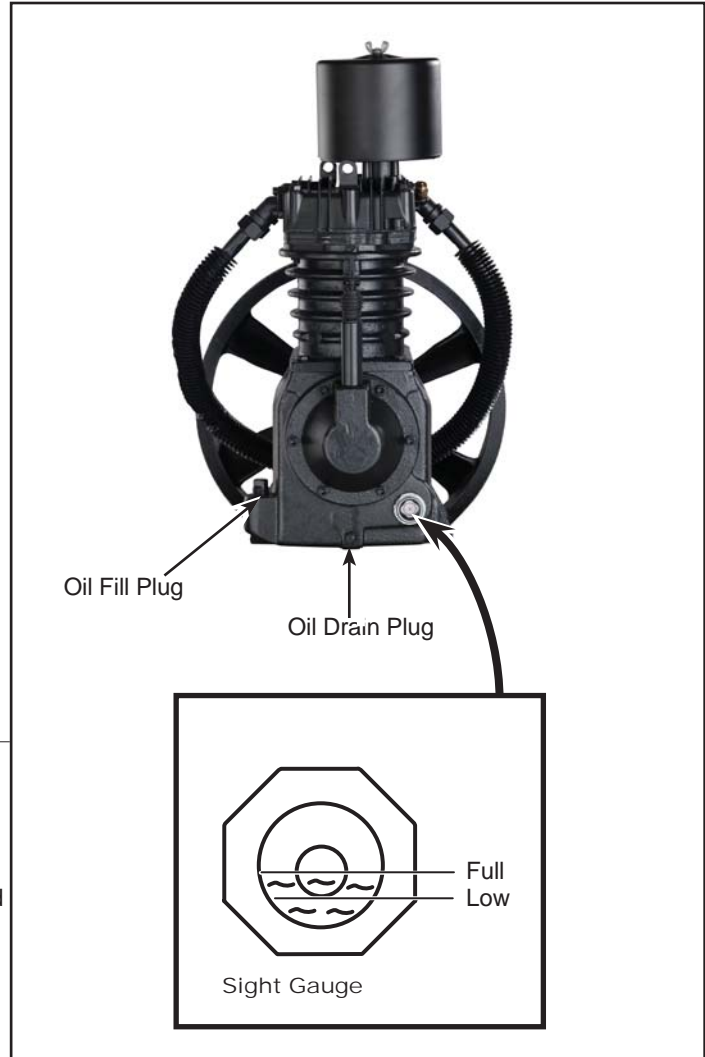

Figure 10 - Lubrication
**⚠ CAUTION** *This unit contains no oil. Before operating compressor, fill to the center of the sight gauge (see Figure 10).*
*Fill the pump with oil to the center of the sight gauge using oil fill opening (see Figure 10). Do NOT fill the pump through the breather cap opening as this may cause oil to leak and spray out during operation.*